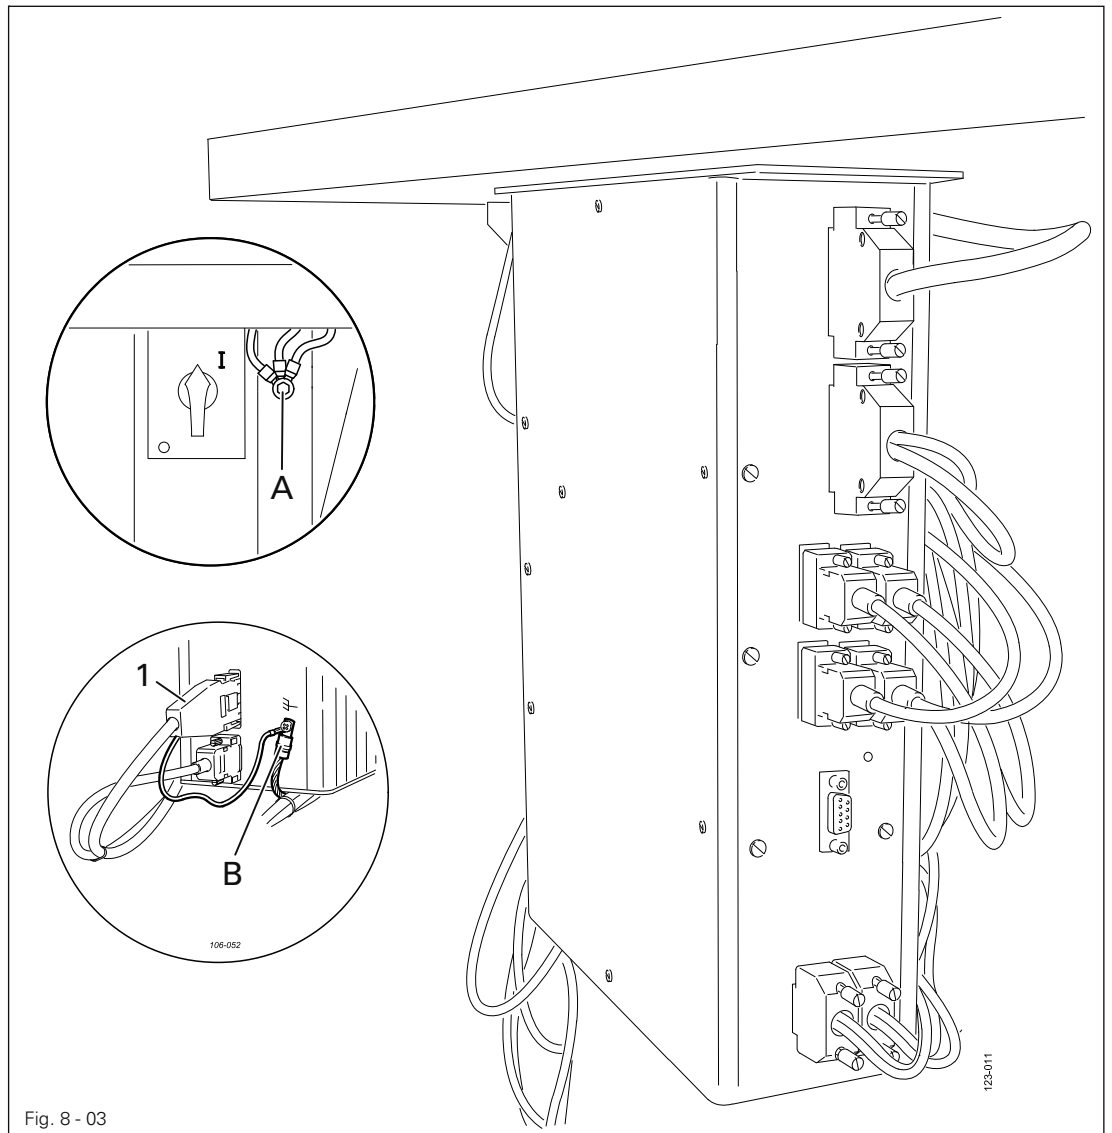

Fig. 8 - 03
- When entering the code number this key corresponds to the figure 8.
- Fit the reel stand as shown in Fig. 8 - 04.